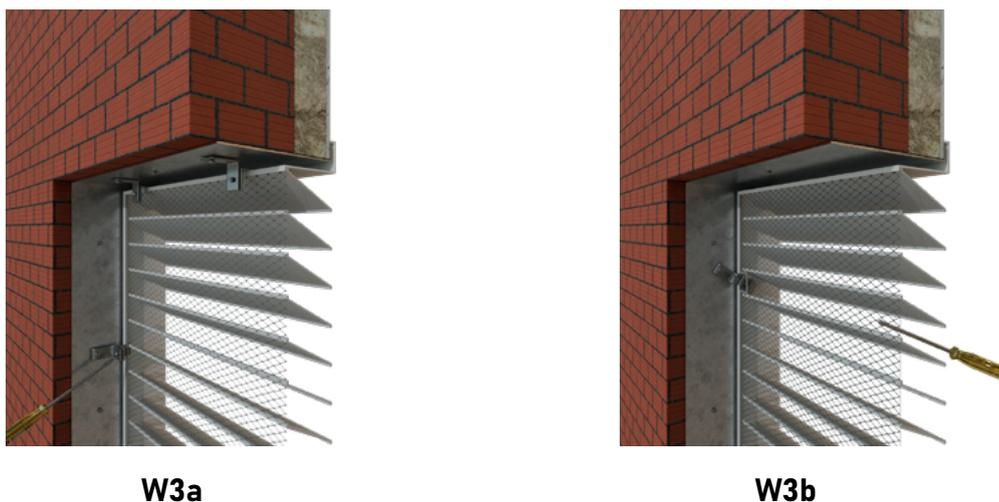

Fig. 5
- **W3** - concealed assembly using screws and mounting brackets in the RM frame (Fig. 5)